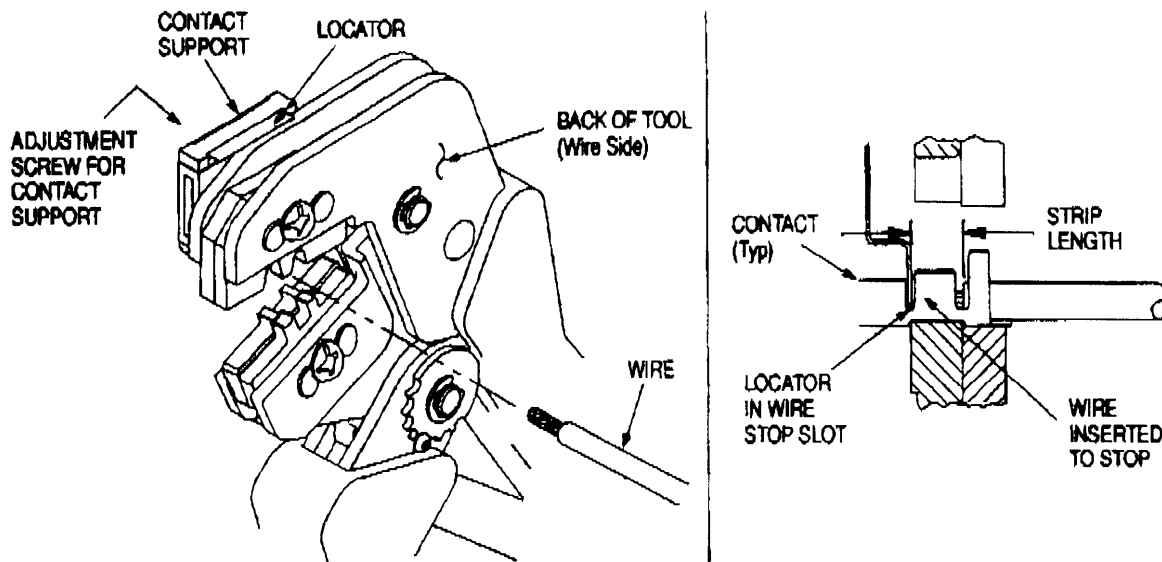

Figure 3
4. CONTACT SUPPORT ADJUSTMENT (Figure 3)
Refer to the table in Figure 1 and select wire of the specified size and insulation diameter. Strip the wire to the length indicated in Figure 1, taking care not to nick or cut wire strands. Select an applicable contact and identify the appropriate crimp section according to the wire size markings on the tool. Refer to Figure 3 and proceed as follows:
3. Position the contact so that the mating end of the contact is on the locator side of the tool, and so that the open "U" of the wire and insulation barrels face the top of the tool. Place the contact up into the nest so that the movable locator drops into the slot in the contact. Refer to Figure 3. Butt the front end of the wire barrel against the movable locator.
5. Insert stripped wire into contact insulation and wire barrels until it is butted against the wire stop, as shown in Figure 3.
NOTE The crimped contact may stick in the crimping area, but the contact can be easily removed by pushing downward on the top of the locator (see Figure 3).